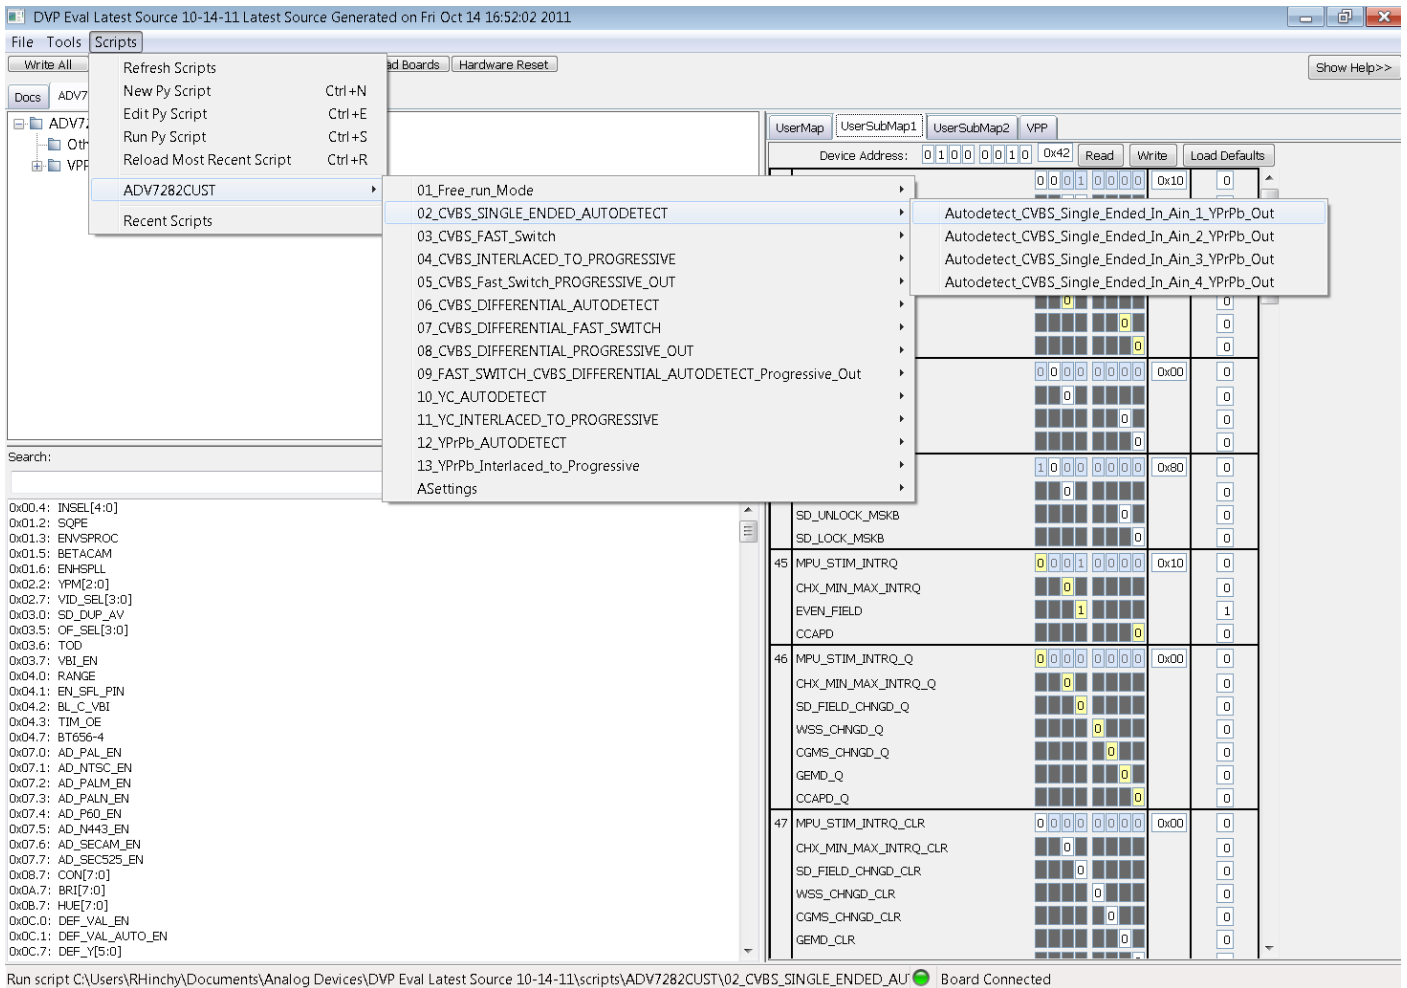

Figure 7. Running ADV7282 Script on DVP Eval Software
7. Select Scripts-> ADV7282CUST to select the script you wish to run (refer to Figure 7).